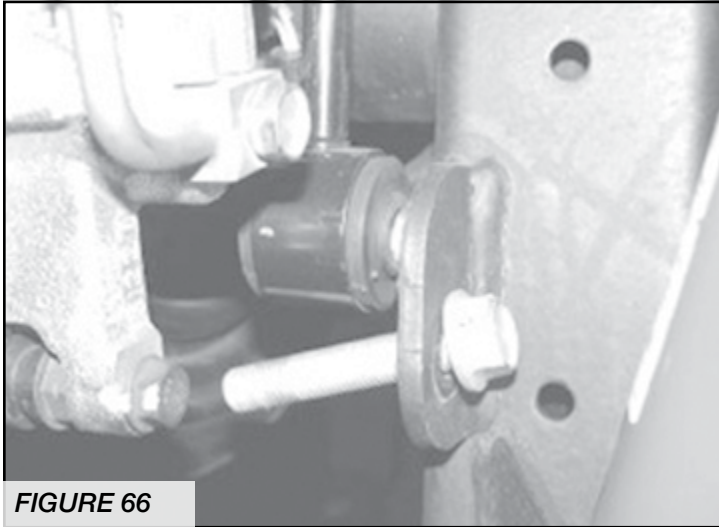

FIGURE 66
36. Remove the factory shocks and discard, save the hardware. Remove the rear sway bar end links and save with the hardware. **SEE FIGURE 66.**